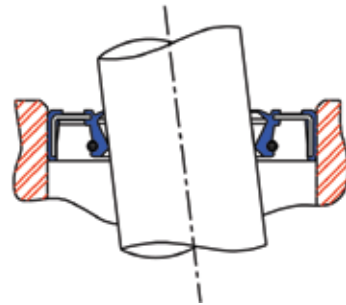

Fig. 3
4. Angled or cocked shaft (Fig. 3)